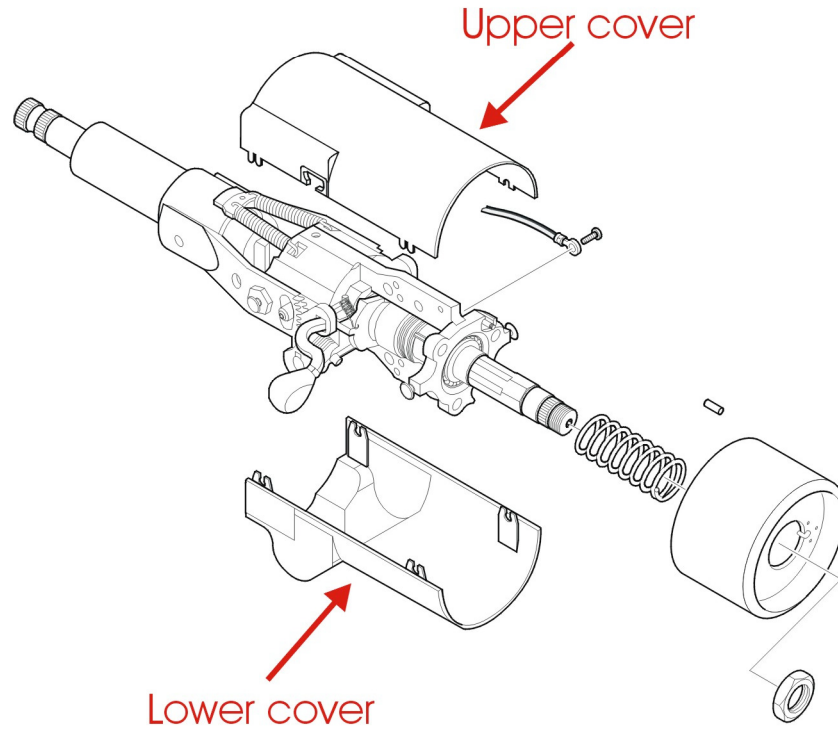

Figure 5: Steering column.
- b. Tilt the column all the way down and pull the upper cover off by grasping the cover at the bottom, closest to the dash. See Figure 5.
- c. Tilt the column all the way up, and pull the lower cover off by grasping the cover at the bottom, closest to the dash. See Figure 5.